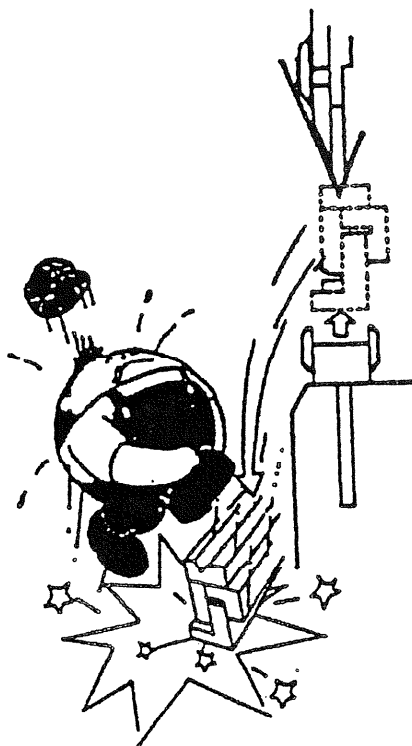

Figure 2.20
- The tool being set up must be firmly secured to the lower beam (Fig. 2.20).